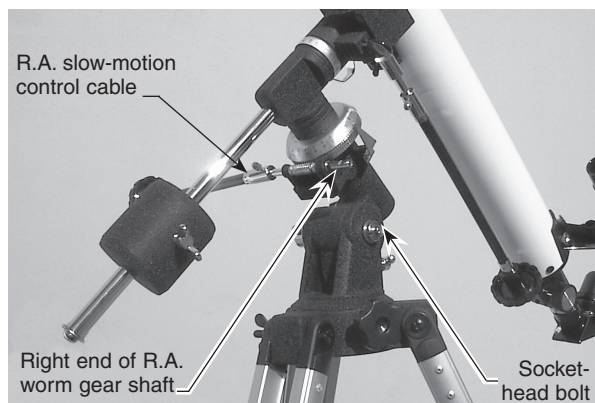

Figure 1. Orion EQ-1M mount with R.A. slow-motion control mounted on left end of R.A. worm gear shaft.
- When facing the front of the mount, the right ascension (R.A.) slow-motion control cable should be mounted on the left end of the R.A. worm gear shaft (see Figure 1). If it is mounted on the right end, remove it from the mount, and reinstall it on the left end of the shaft.
- Use the provided 4mm Allen wrench and remove the socket-head bolt on the right side of the equatorial mount (see Figure 1).